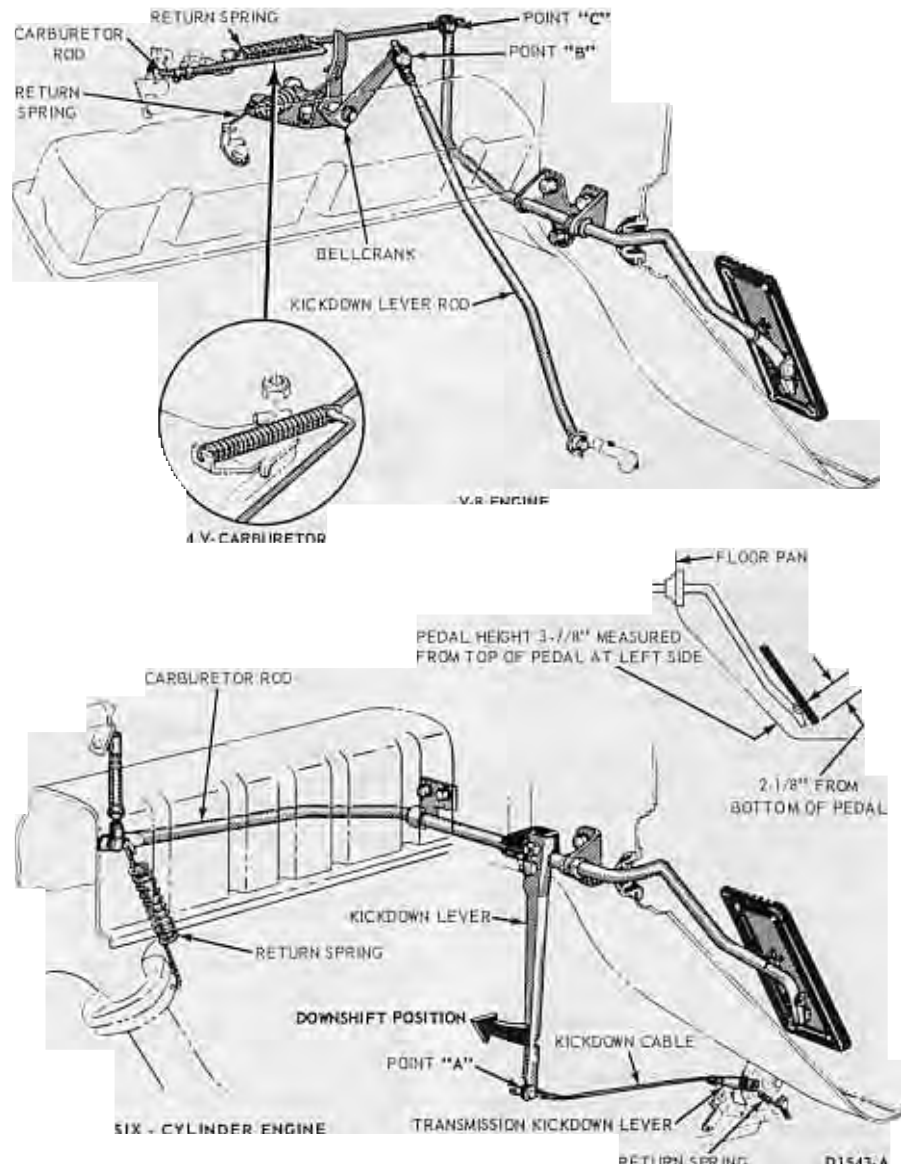

FIG. 15—Throttle Linkage—Mustang—All Engines
1. With the engine stopped and the accelerator pedal in normal idle position, check the pedal for a height of 3¾ inches (Fig. 15). Be sure the fast idle cam is not contacting the fast idle adjusting screw of the carburetor.
On V-8 engines, disconnect the carburetor return spring and the carburetor rod at point C (Fig. 15). Adjust the length of the rod to bring the pedal height within specifications. Connect the carburetor rod and return spring.
On six-cylinder engines, disconnect the kickdown cable return spring at the transmission. Disconnect the carburetor return spring at the manifold. Disconnect the kickdown cable at Point A (Fig. 15).
On eight-cylinder engines, disconnect the kickdown return spring at the bellcrank. Disconnect the carburetor return spring (Fig. 15).